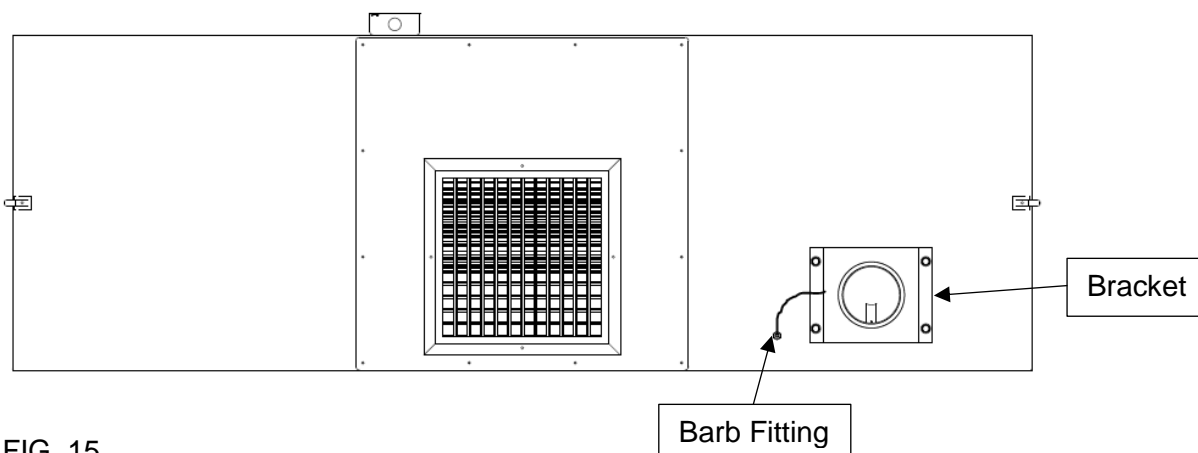

FIG. 15
5. Using  $\frac{1}{4}$ " clear tubing connect the "LOW" pressure port on the gauge to the barb fitting on the unit. The "HIGH" pressure port stays disconnected (See **FIG. 15** for typical installation). **NOTE:** The Magnehelic bracket assembly can be mounted on any flat surface. Additional air hose can be purchased from the factory.